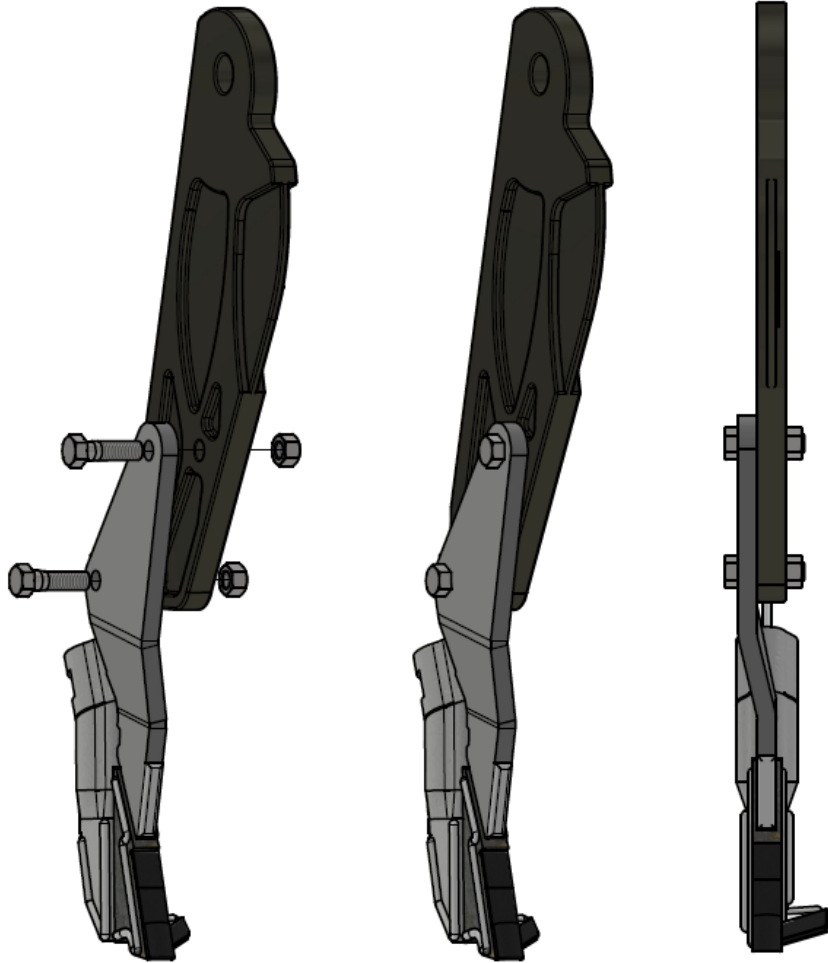

Figure 2: Bolt opener to shank
Mounting your openers on the correct side of the drill will reduce the chances of plugging while turning with the drill in the ground. A "left" opener will have the wing pointed to the left when viewed from the back. In Figure 2, the arrows show the direction of the wing.
- 3) Carbide protected wings for side band openers can be purchased through Atom-Jet to weld on to replace broken and worn-out wings. Remember the designation of left and right wings based on the side of the drill shown in Figure 2.